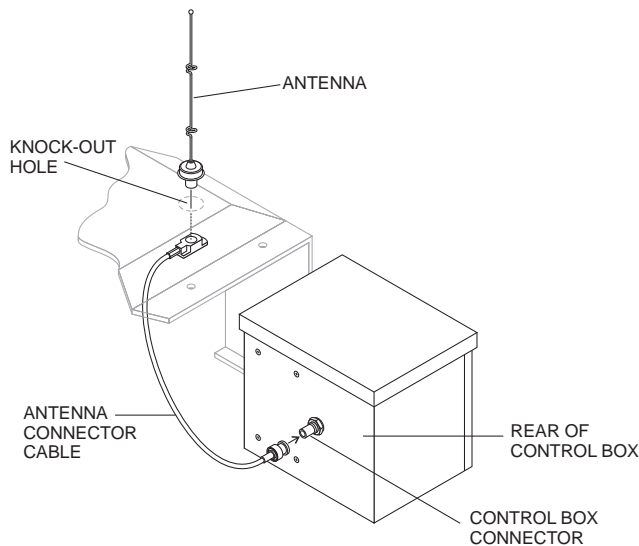

Figure 38. Antenna Installation
- On the top of the unit, to the right of the control box (Figure 38), hammer out the knock-out hole and install the remote antenna.
- Connect the antenna cable to the connector (Figure 38) on the rear of the control box.